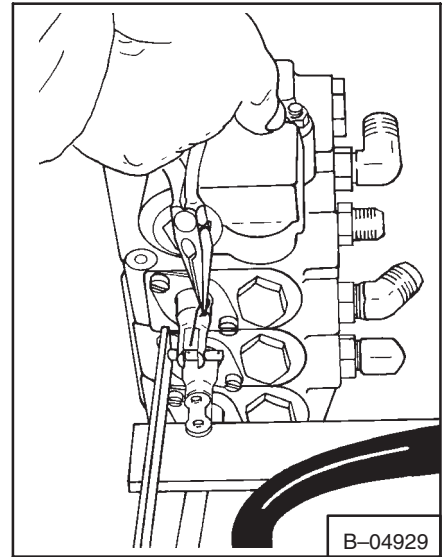

Fig. 2-7 Removing Linkage
8. Remove the hydraulic pedal linkages at the control valve (Fig. 2-7, Item 1 & 2).